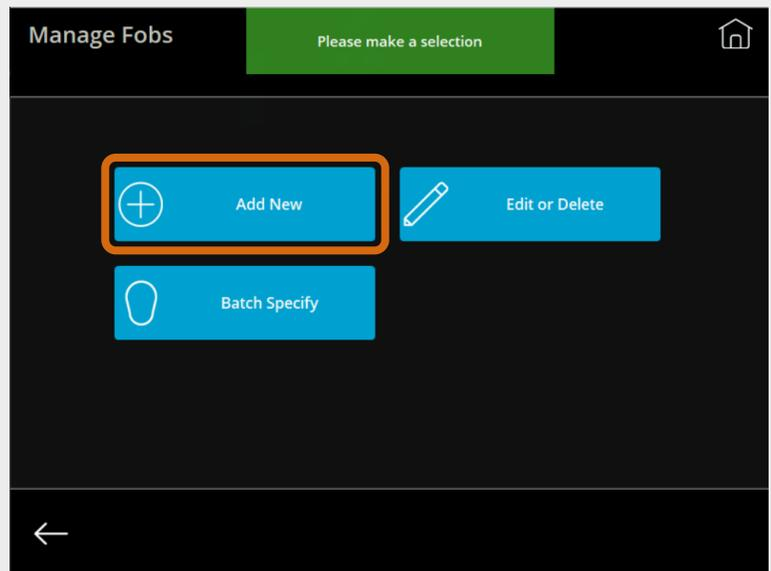

Fig. 29 – Manage Fobs screen with Add New button indicated
4. To assign a single Smart Tag to a fob, press **Add New**, as shown in Fig. 29.